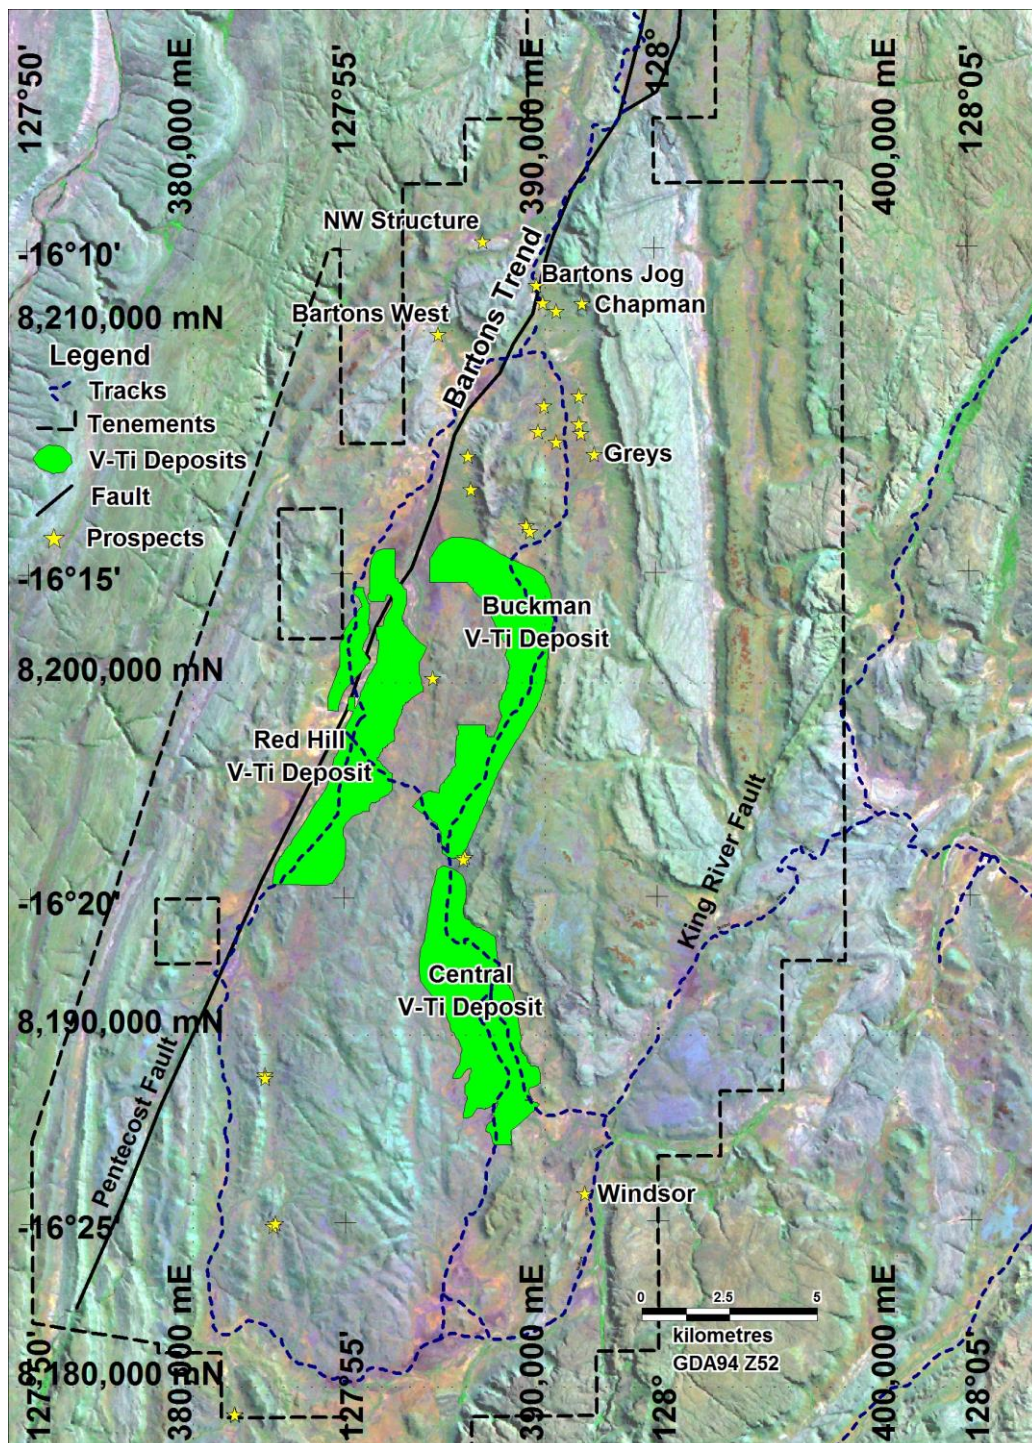

Figure 1: Spewah Dome targets including the new Bartons Trend on a Landsat TM image.
- RC drilling has commenced along the Bartons Trend and Chapman targets (Figure 1).
The Vanadium Concept Study milestones (KRC ASX: 21 April 2017) are being progressively addressed. This study is examining the feasibility of producing vanadium in the form of vanadium pentoxide (V₂O₅) and also titanium dioxide (TiO₂) from the high grade zone of the Central vanadium deposit at Speewah (Figure 1).
- ❖ CSA Global Pty Ltd has completed an updated resource estimate reporting in accordance with the JORC Code (2012). The updated Measured, Indicated and Inferred Mineral Resource, reported at a 0.23% V₂O₅ cut-off grade from the Central, Buckman and Red Hill deposits (Figure 1), comprises 4,712 million tonnes at 0.3% V₂O₅, 2% Ti and 14.7% Fe (refer KRC ASX announcement 26 May 2017 for the full resource statement details).